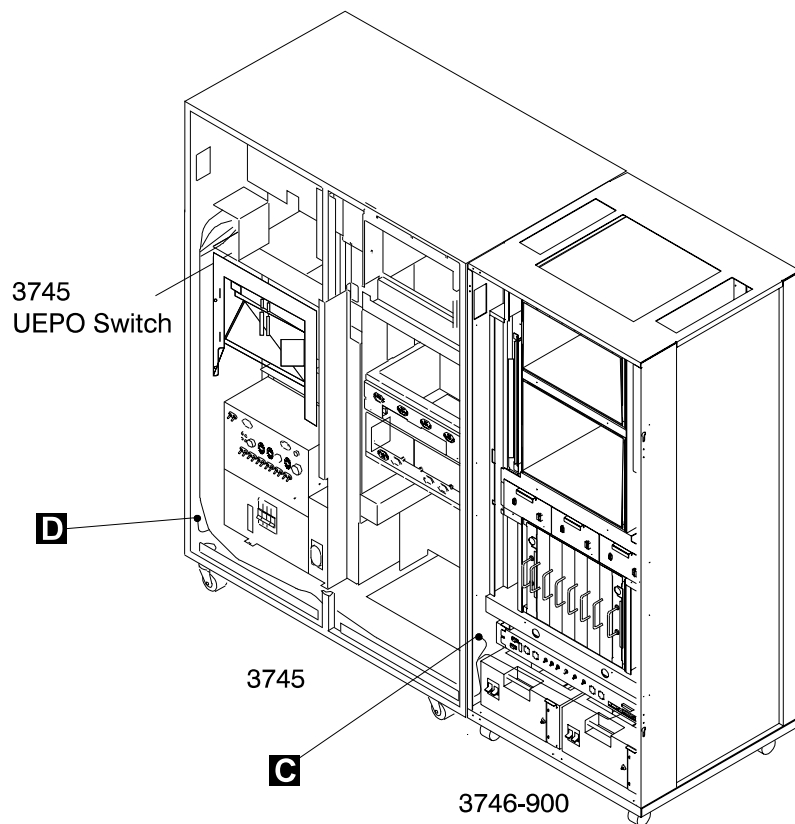

Figure 0-2. 3745 Model 21A to 61A/3746-900 UEPO Cable Routing
- To the 3745 Models 21A to 61A via the UEPO cable (see Figure 0-2 on page xxiv).